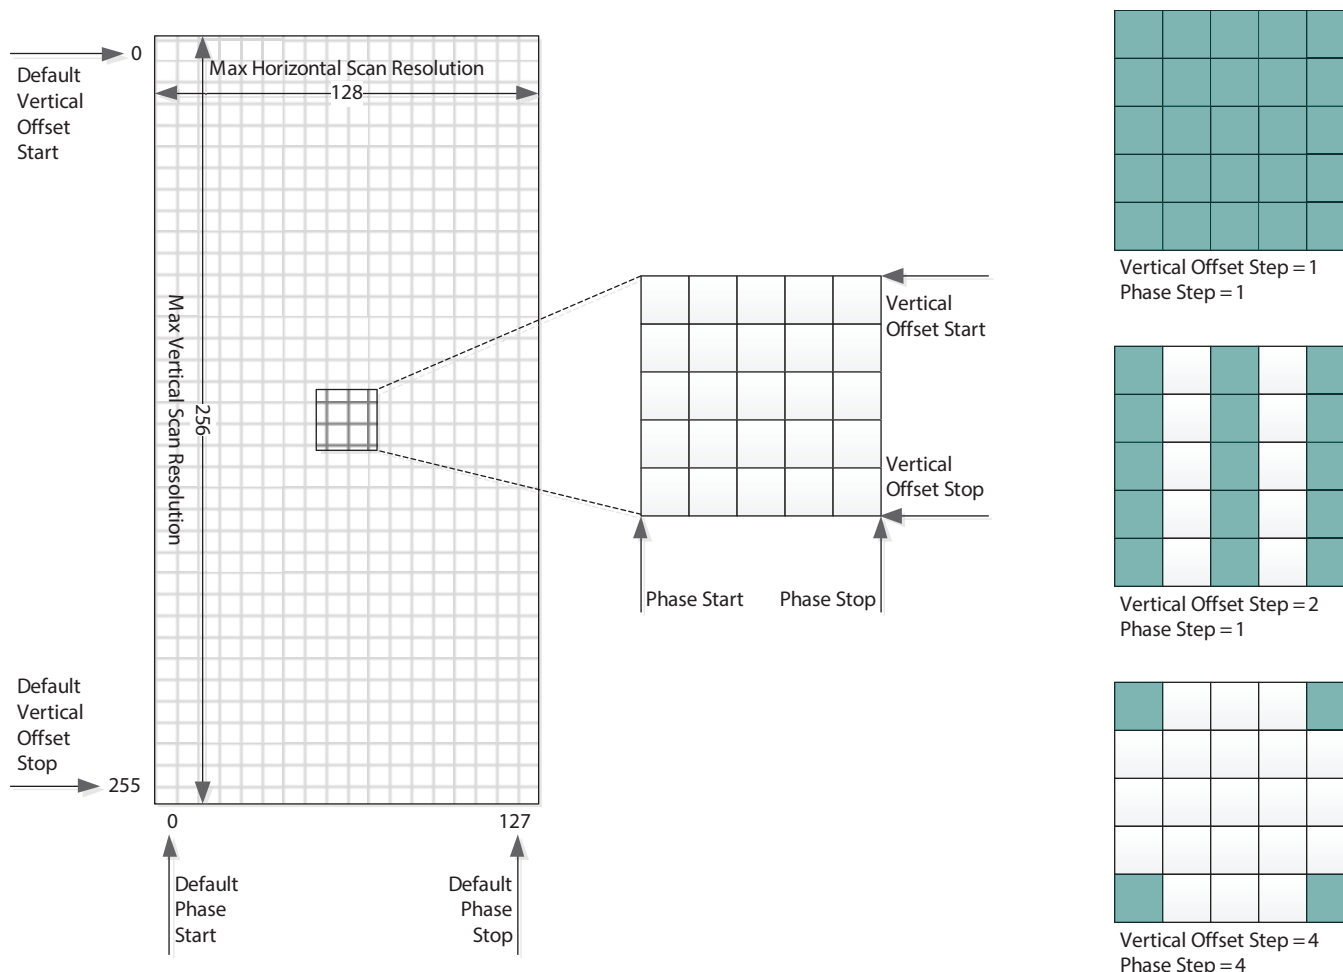

Figure 4-7: Eye Scan Matrix Parameters
Figure 4-7 shows a visual representation of the scan matrix and indicates the spatial parameters that determine the scan area and resolution. Running a scan using the default offset and step parameters, results in 32768 (128x255) samples. The number of samples and thus, the total scan time can be reduced to meet the needs of the application. The scan area can be reduced by reducing the span determined by the vertical and phase start and stop offsets. Or, the resolution can be reduced by increasing the step size between adjacent samples. On the right in Figure 4-7, there are three step settings used as examples, however there are a total of nine combinations possible. See Table 4-6 for the register addresses and parameter names of the spatial eye scan parameters.
Figure 4-7 illustrates an example of an eye scan, where the sampled eye data is not centred within the scan matrix. The eye scan data has an arbitrary centre phase relative to the centre of the matrix which is determined when the Eye Monitor is powered-up. While the Eye Monitor remains powered, subsequent scans will maintain the same relative phase allowing for consecutive scans to be compared for changes.
- ♦ Making reference to the Matrix shown in Figure 4-7, the eye scan data starting at 0x6C02 is stored in order from left to right, top to bottom, from the last stored vertical/horizontal position in the matrix